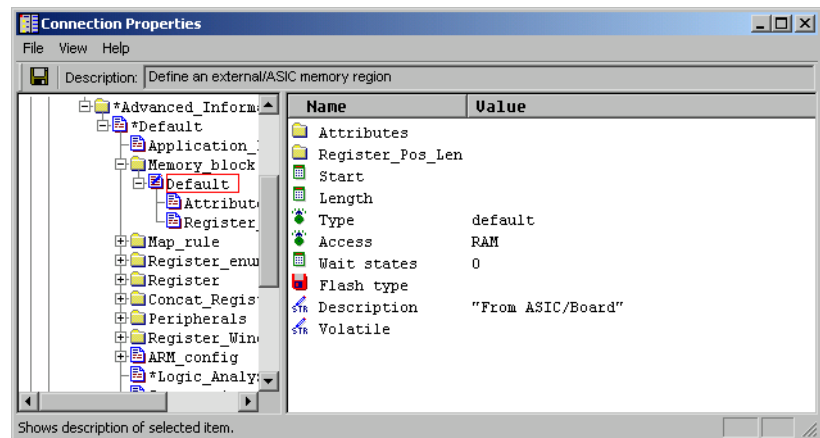

Figure 5-13 Defining shared memory regions
5. Double-click on the Memory_block Default group entry in the left pane to expand it. Your Connection Properties window looks like Figure 5-13.
A simple example is an SMP environment, in which two processors share all memory and all peripherals. To do this, change the settings for each processor (shown in the example in Figure 5-13 on page 5-40) like this:
- editing the settings of the connection in the board file directly, for example the CONNECTION group for the Multi-ICE connection shown in Figure 5-13 on page 5-40